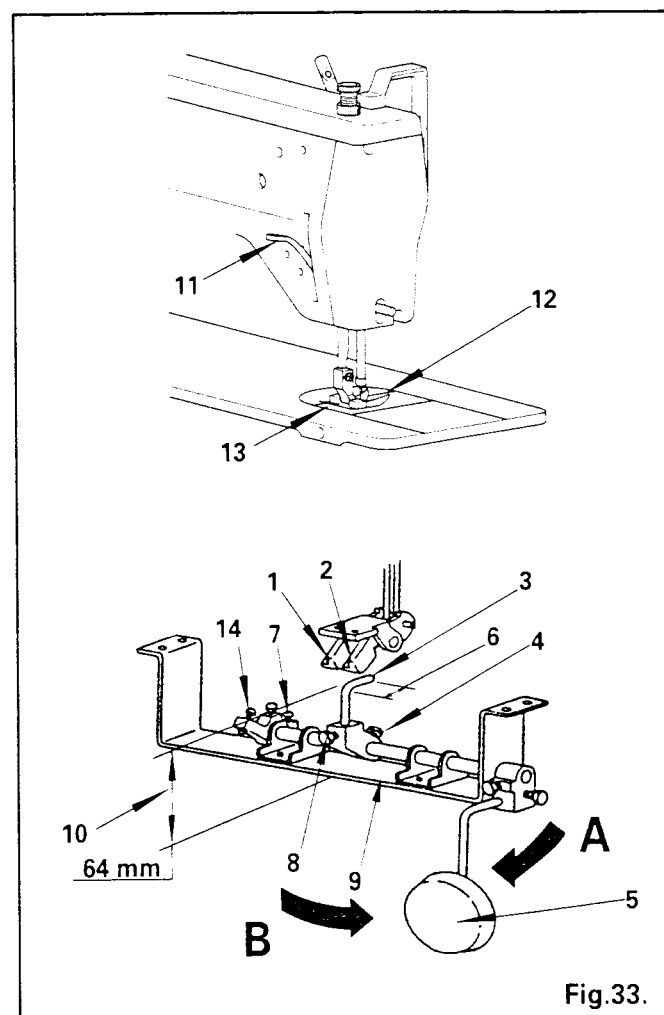

Fig.33.
Bell cranks (1) and (2) shown in Fig. 33 are fastened to the underside of the bed. Bell crank (1) is used for lifting and lowering the presser foot with knee, and bell crank (2) is used for controlling the stitch width. (See Fig.33)
To raise or lower the presser foot with knee, loosen screw (4) holding the knee lifter shaft arm (3) and move knee lifter shaft arm (3) just under the bell crank (1), and firmly tighten screw (4). (See Fig.33)
Loosen the lock nut holding screw (7) and turn screw (7) as required, so that the bent end (6) of knee lifter shaft arm (3) will be almost horizontal when knee lifter knee plate (5) is pushed as far as it will go in the direction indicated with arrow (A), then firmly tighten the lock nut. (See Fig.33)
With knee lifter shaft arm (3) set in position as described above, loosen screw (8) and move knee lifter shaft arm (3) up or down as required, so that height (10) from its bent end (6) to bracket (9) is 64 mm. (See Fig.33)
Raise presser foot (12) with presser foot lifter (11). Then loosen the lock nut holding screw (14) and turn screw (14) as required, so that knee lifter knee plate (5) when pushed in the direction indicated with arrow (B), will stop at a point (presser foot (12) raised approx. 9 mm from throat plate (13) surface) where presser bar lifter (11) will drop down from its raised position when presser bar is lifted a little higher than its normal up position. Then firmly tighten the lock nut. (See Fig.33)
When knee lifter knee plate (5) is pushed in the direction indicated with arrow (B), the presser foot (12) will rise and when knee plate (5) is released, presser foot (12) will be lowered. (See Fig.33)